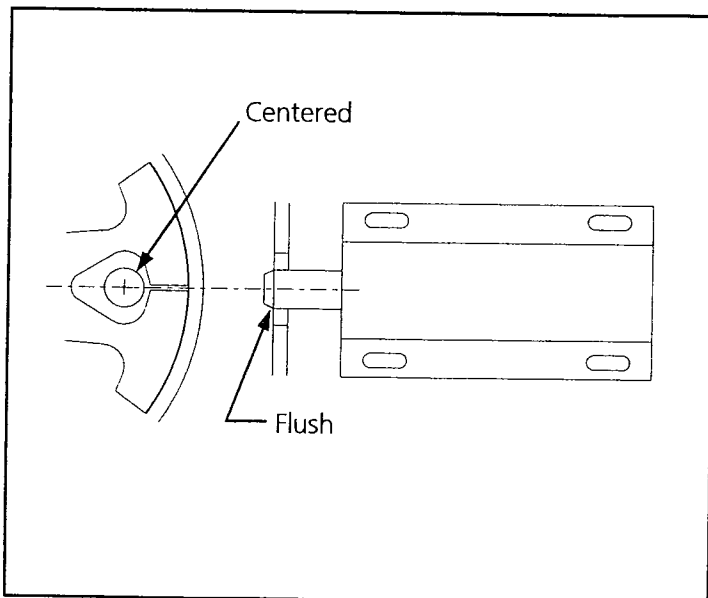

Figure 4-17: Brake Cylinder Installation
- Position the brake cylinder assembly on the chassis so that the cylinder pin is centered in the large radius of the wheel disk cutouts and the cylinder pin major diameter is flush with the outside edge of the wheel disk (Figure 4-17).